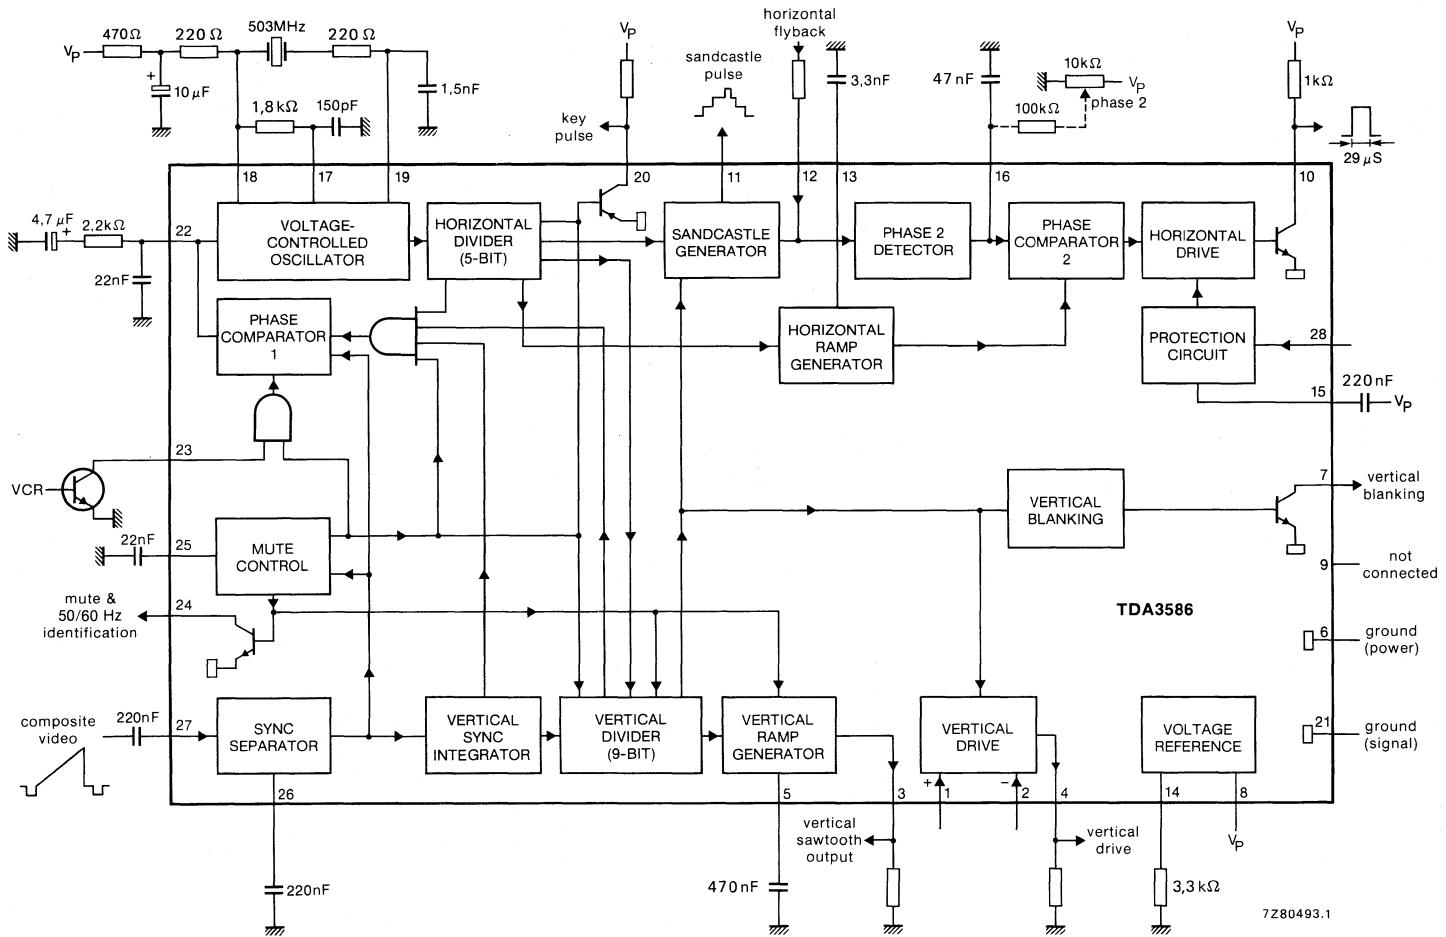

Fig. 1 Block diagram.
**CHARACTERISTICS** $V_P = V_{8-6/21} = 12$  V;  $T_{amb} = 25$  °C; as measured in Fig. 1; unless otherwise specified